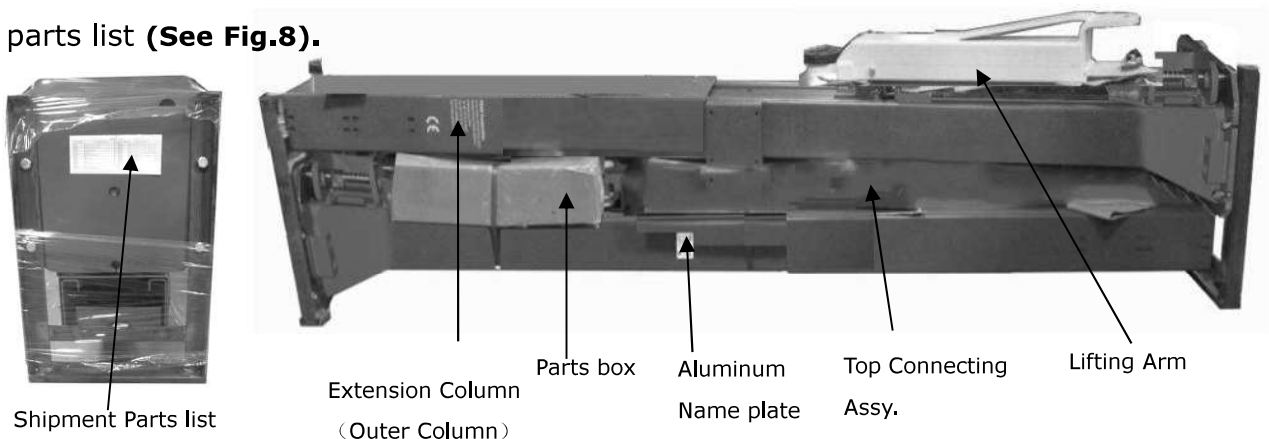

Fig. 8
2. Move aside the lift with fork lift or hoist, and open the extension packing carefully , take off the lifting arms and parts box from upper and inside the column, then move them to location nearby installation site, check the parts according to the shipment parts list (See Fig.8).